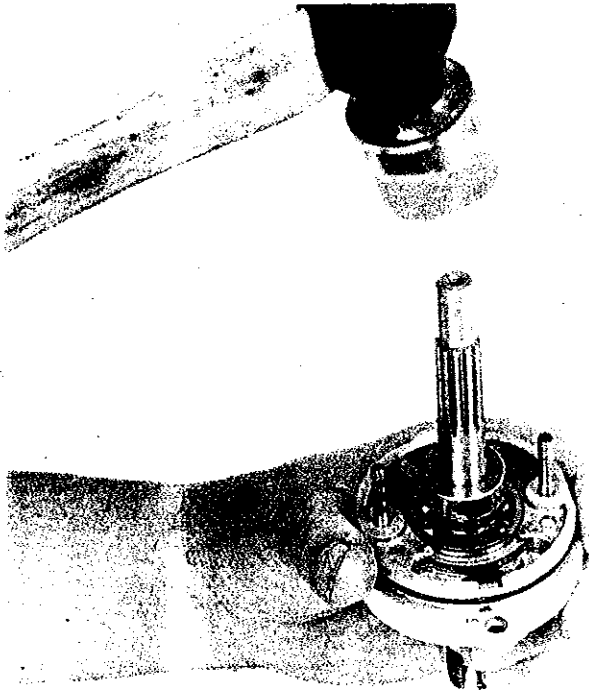

Figure 29. Tap propeller shaft into cover.
- S. Hold the cover assembly and tap in the propeller shaft (Figure 29).